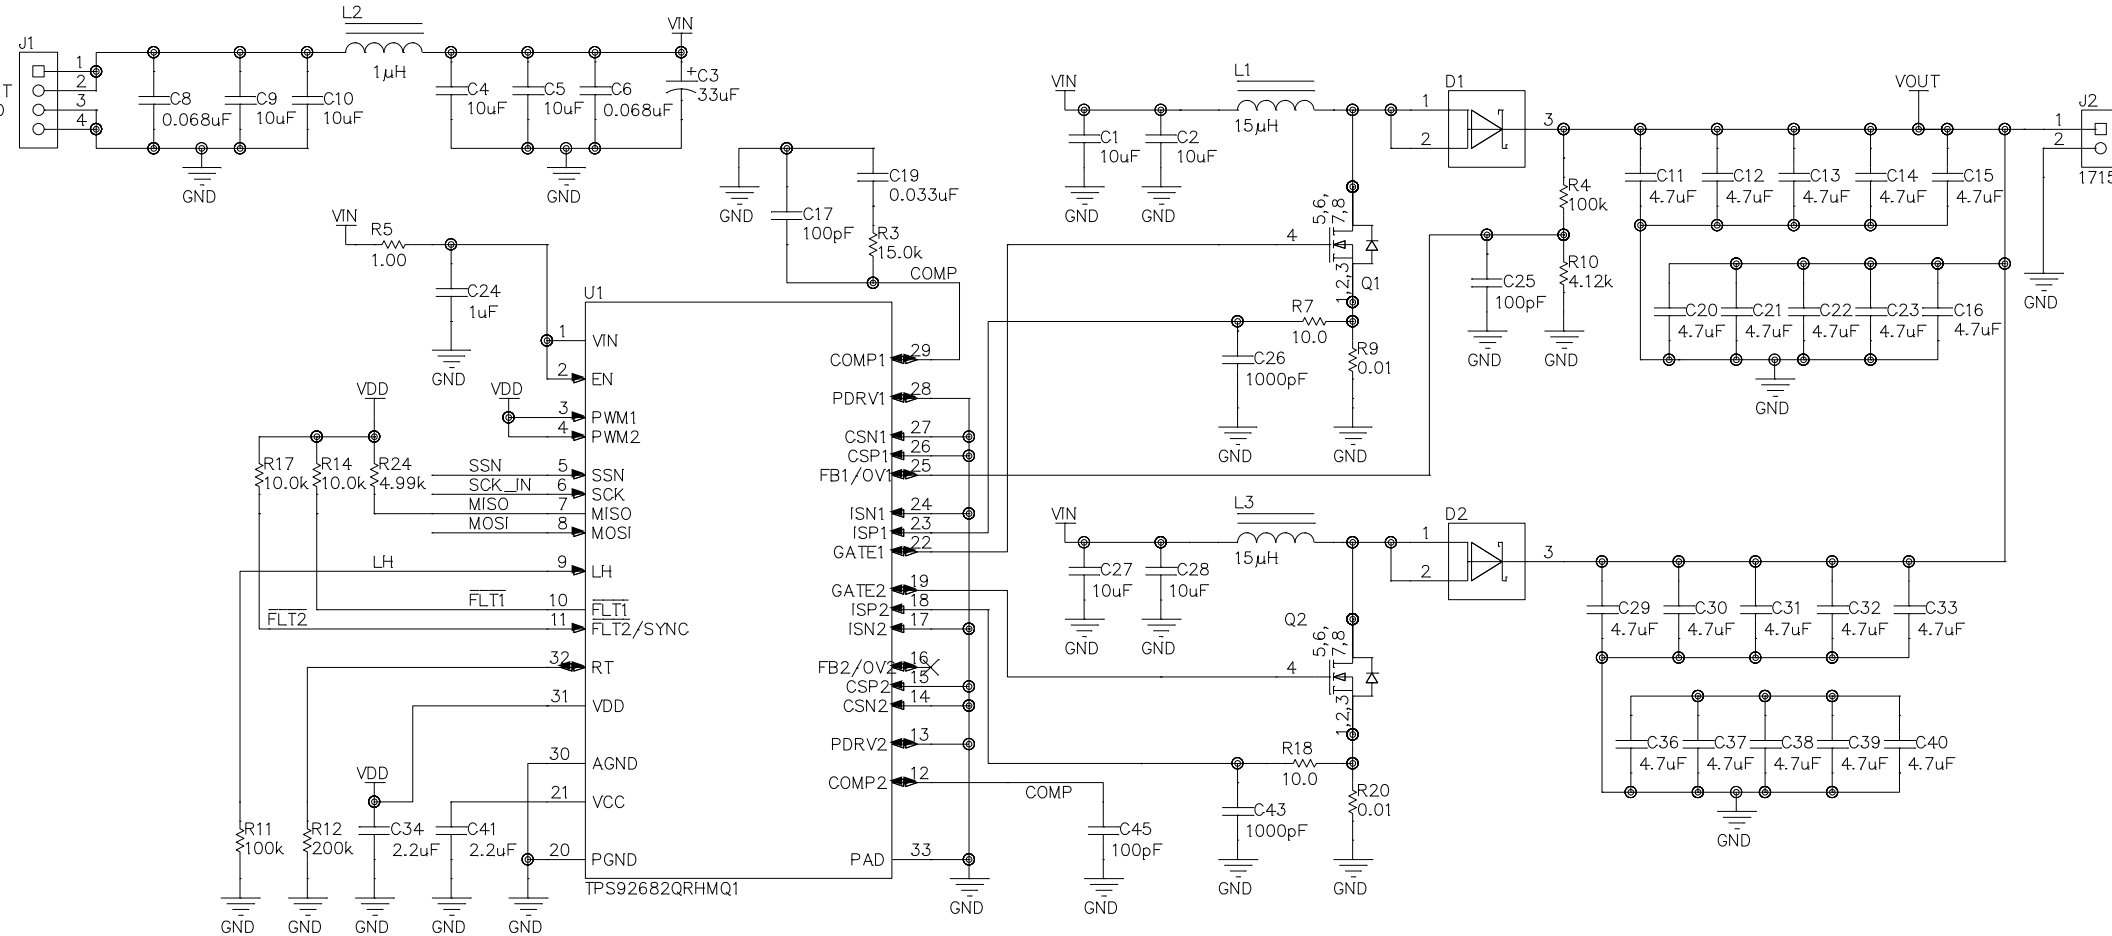

Figure 8-22. CV Mode Two-Phase BOOST
Figure 8-22 shows the schematic for a two-phase Boost Constant Voltage (CV) regulator.
Eight $10\text{-}\mu\text{F}$, 50-V ceramic capacitors are used in parallel to achieve a combined input capacitance of $80 \mu\text{F}$. As shown in Figure 8-22, an additional $33\text{-}\mu\text{F}$, 50-V electrolytic capacitor and a $1\text{-}\mu\text{H}$ inductor are also used at the input terminal. The electrolytic capacitor is used to further decrease overshoot and undershoot during load transient. The input inductor is used to decrease the switching noise and improve EMI performance.